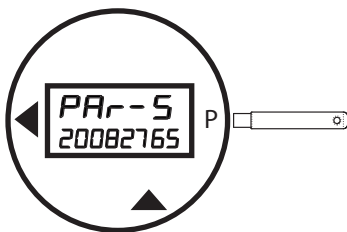

Figure 19.
- Pass the wand over the **P** once to advance to the second menu level. The selection **PAR-S** with the meter's serial number will appear (Figure 19). This is the first item in the second menu level.